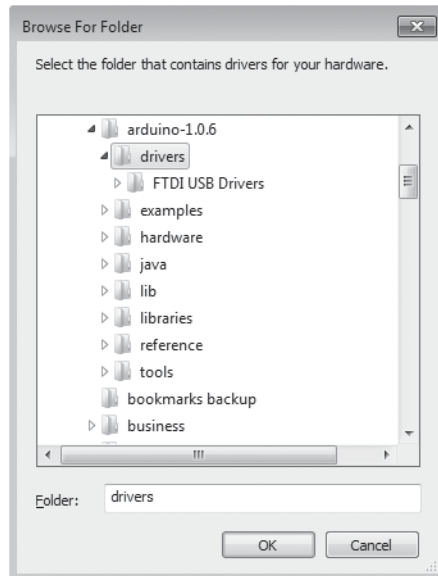

Figure 1-20: Locating the drivers folder
3. Right-click **Arduino Uno** under Other Devices and select **Update Driver Software**. Then, select the **Browse my computer for driver software** option that appears in the next dialog. Another Browse For Folder dialog will appear; click **Browse**, and navigate to the *drivers* folder in the newly installed Arduino software folder (shown in Figure 1-20). Click **OK**.